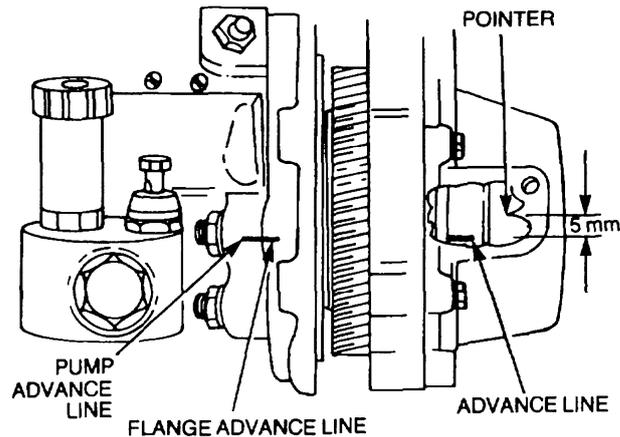

Figure 33 Injection Pump Installation
- e. Install a new flange gasket and the pump; then check that the advance line is approximately 5 mm below the pointer on the timing case aperture (Figure 33).